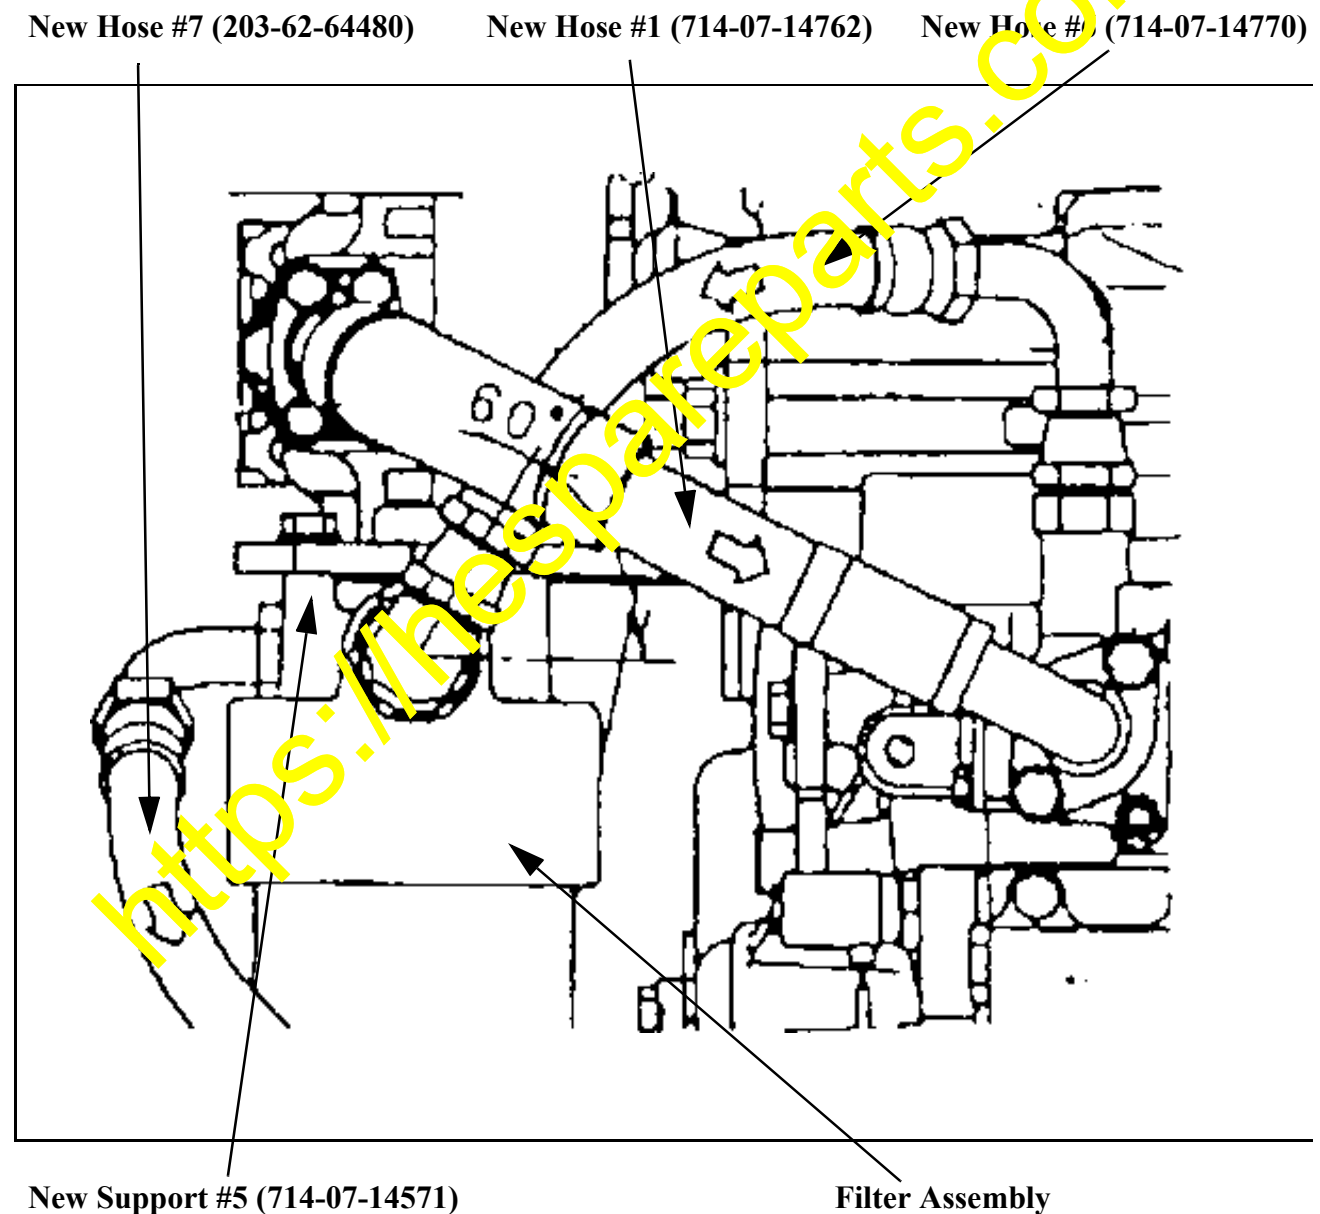

Figure 6
3. Remove filter head from it's support and discard support only. Keep the filter head, it will be reused on the new support P/N 714-07-14571, See fig. 6
4. Reinstall the filter head assembly to the new support. See Figure 6.
5. Install the new hose #6 (714-07-14770) & #7 (203-62-64480). Adjust the mounting angle of the elbow on the filter outlet side to 0° (Horizontal) See Figure 6. When doing this, temporarily connect the mouthpieces at both ends of the hose to check if the hose is without twists before tightening the mouthpiece connections. Meanwhile, refer to Figure 6 & 7 given below regarding the mounting angle of the filter side mouthpiece.